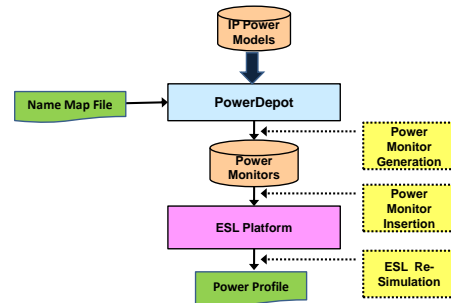

Fig. 3: ESL power analysis flow.
The power models generated by *PowerMixer^{IP}* can be integrated into the ESL platform. Then, by re-running the ESL simulation, the power profile of the ESL system can be produced. As shown in Fig. 3, there are three steps in this process: (1) Power monitor generation, (2) Power monitor insertion, and (3) ESL re-simulation. The power monitor is implemented as a SystemC module used to monitor the power consumption of the IP module in the ESL platform. The *PowerDepot* first reads the power model files produced by *PowerMixer^{IP}* and the ESL-to-HW name-mapping file, which indicates the mapping of key signal names and module names between ESL and gate-level/RTL, to generate the power monitors automatically. Then, each power monitor is inserted into the SystemC module of each corresponding IP in the ESL platform. Finally, the SystemC-based ESL platform is re-compiled and re-simulated to produce the power profile of each IP as well as the power accumulation of the whole ESL system.